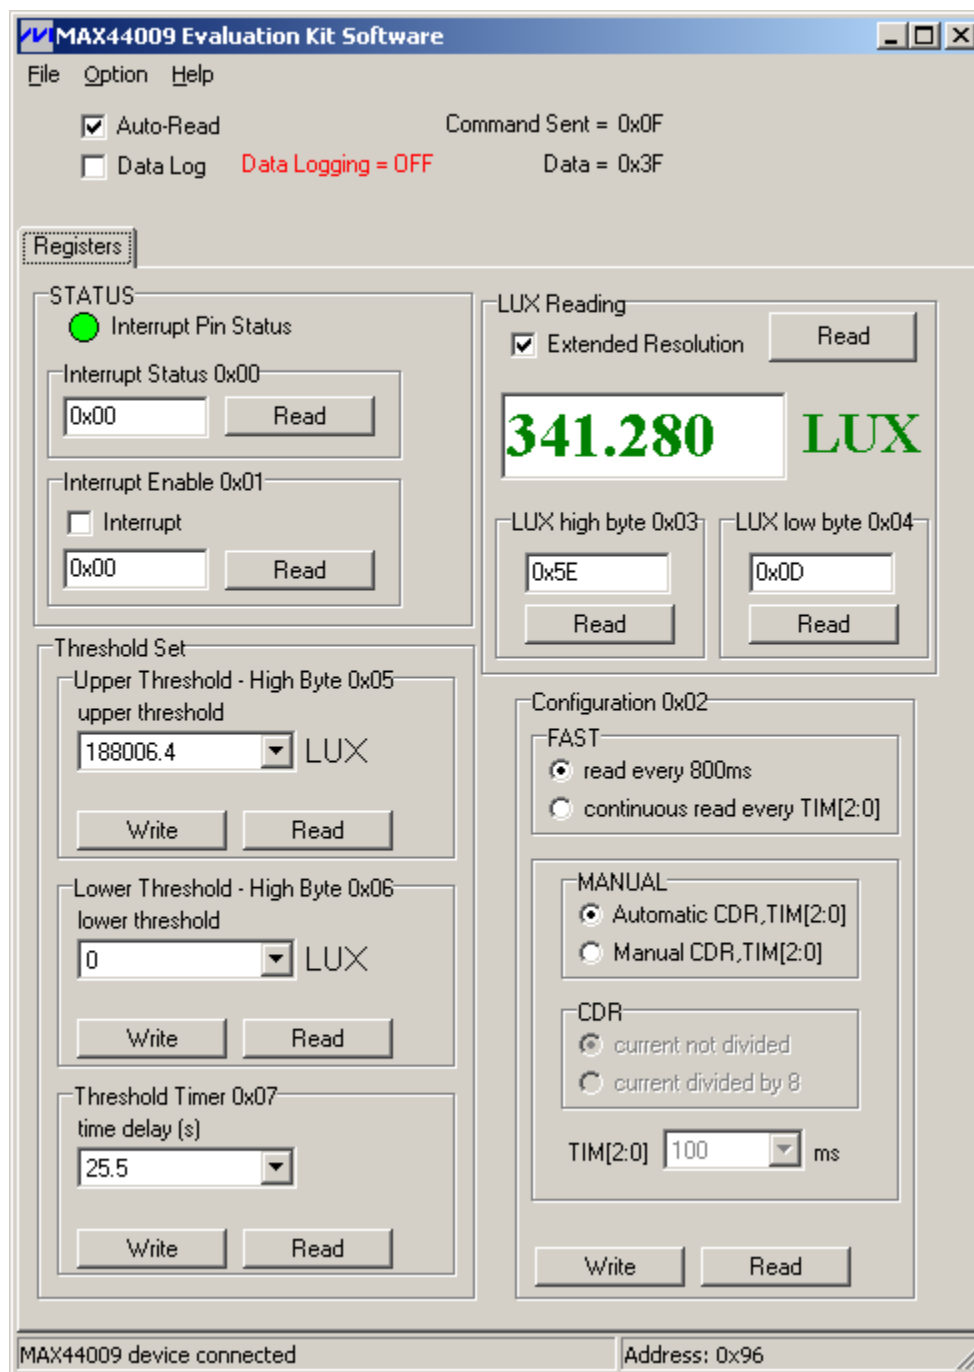
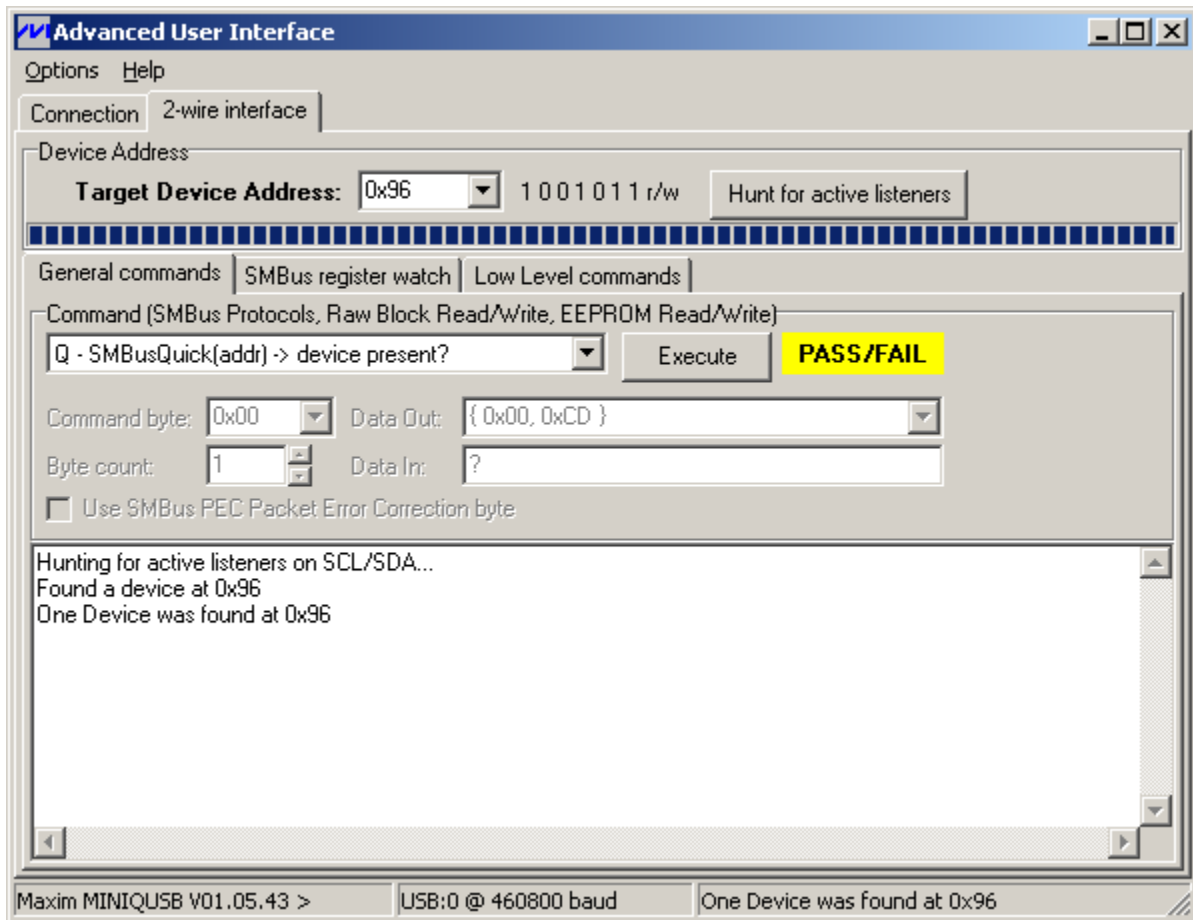

Figure 1. MAX44009 EV Kit Software Main Window
Figure 2. MAX44009 Interface Diagnostic Window
- 6) Start the EV kit software by opening its icon in the **Start | Programs** menu. The EV kit software main window appears, as shown in Figure 1. Observe as the program automatically detects the EV kit and starts the main program.
The MAX44009 EV kit software GUI (Figure 1) is a Windows program that provides a convenient means to control the MAX44009. The EV kit software accurately reads the device's digital output and displays the lux reading of ambient light. The software has an option to extend the resolution and dynamic range of lux measurements. The software also sets the upper and lower lux threshold limits, configures the interrupt functionality, and configures other modes of device. Refer to the *Register and Bit Descriptions* section in the MAX44009 IC data sheet for further details.
There are two methods for communicating with the device, through the EV kit software main window (Figure 1), or through the interface window available by selecting the **Options | Interface (Advanced Users)** menu item from the menu bar. The Maxim command module interface window (Figure 2) includes a **2-wire interface** tab that allows for execution of the frequently used commands.